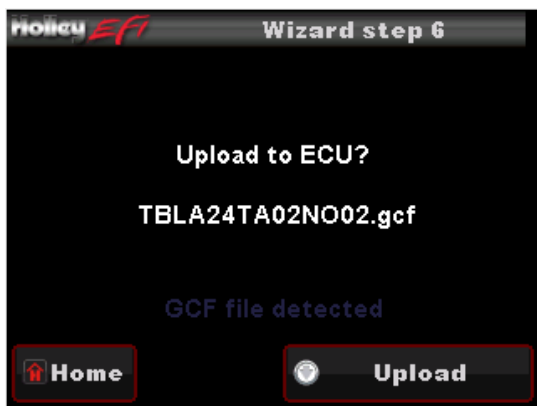

Figure 35
10. After entering the ignition type, your calibration will be created (Fig. 35). Press the “Upload” button to send the calibration to the ECU. You will then see a screen showing “Uploading” (Fig. 36). Finally you will see a screen indicating the file is uploaded. Cycle the ignition switch for the calibration to take affect (Fig. 37). Proceed to section 18.0.